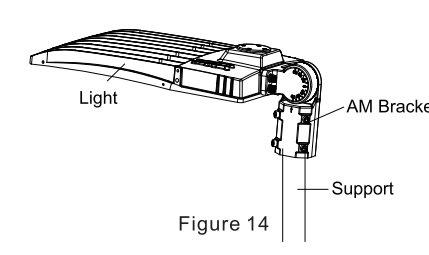

Figure 14
Step 2: Place the bracket into the pole and lock the four bolts. (Figure 14)